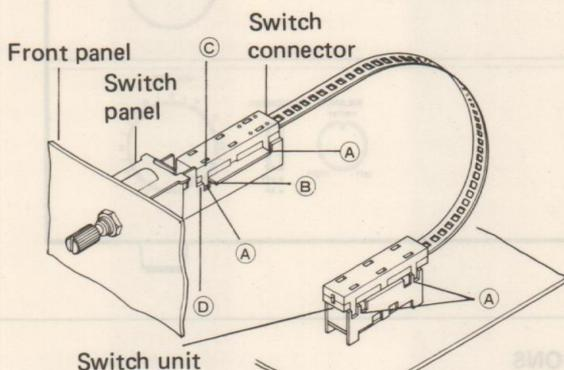
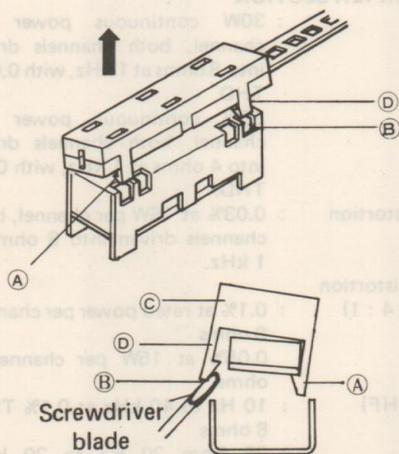
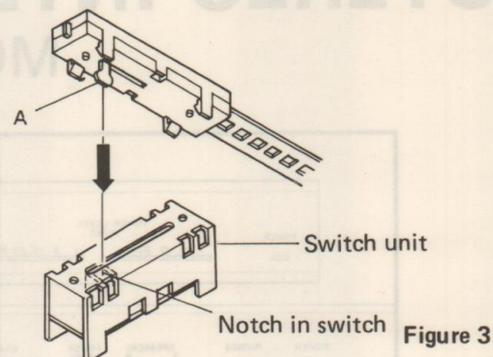

Figure 1
Figure 2
Figure 3
The rotary switch is fastened at the rear with the 3 parts as shown in Figure 1. Each part is secured with the 8 locks ("A") as illustrated in Figures 1 and 2.
- b. Release the lock "A" shown in Figure 1.
- (1) Insert a small screwdriver into the "B" section shown in Figures 1 and 2 to remove the "A" section by lifting it up as shown in Figure 2.
- (2) After lifting, hold the "C" section by hand and insert the screwdriver into the "D" section. By pinching the screwdriver, the "D" section can be removed.
- c. When reassembling, make sure that the "A" section shown in Figure 3 is positioned on the rear side.
Turn the shaft on the panel counterclockwise. Set the notch in the switch to the "A" section shown in Figure 3 and then insert the switch unit. Turn the rotary switch to check that it functions properly.